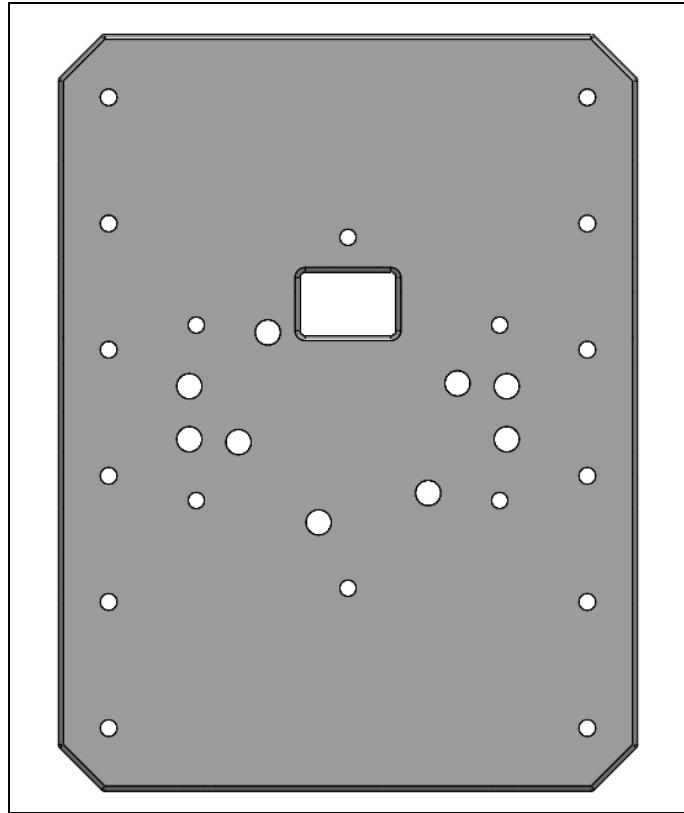

Figure 1: SolidWorks model of Base
2. Make sure the Correct side of the base is facing the ground. Figure 1 below should face the ground.